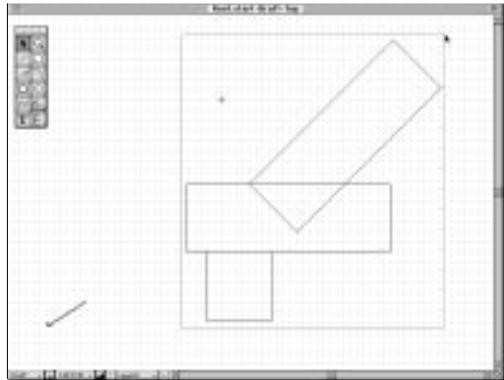

Fig. 65 Selecting rectangles
2. Drag a box around the three rectangles (figure 65). DENEBCAD selects the rectangles, and handles appear at the corners.